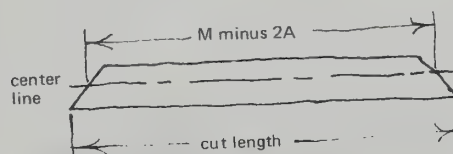

Fig. 6
from the wire length (M) to get the "true length" at the center line of your perimeter joist. (M minus 2A) Because of the angle cut, the perimeter joist will actually have to be CUT longer than this. Take the 2 x 6 and draw a line on it at 60° near one tip. Also draw a short line dividing the joist in half lengthways as if you were going to split it into 1 x 6. (See Fig. 6) Where this line intersects the angle line, make a mark. Measure from the mark down the joist to the other end the distance you have already found to be the true joist length (M minus 2A) and make another mark in the center of the joist. Using the triangle again, make a 60° angle line (the opposite way than at the other end, please) so it intersects this mark. Check again. Cut the joist and six more like it. Set the other piers and beams, marking the true beam lengths with the wire and marking them so that you can tell where to install the perimeter joists accurately.